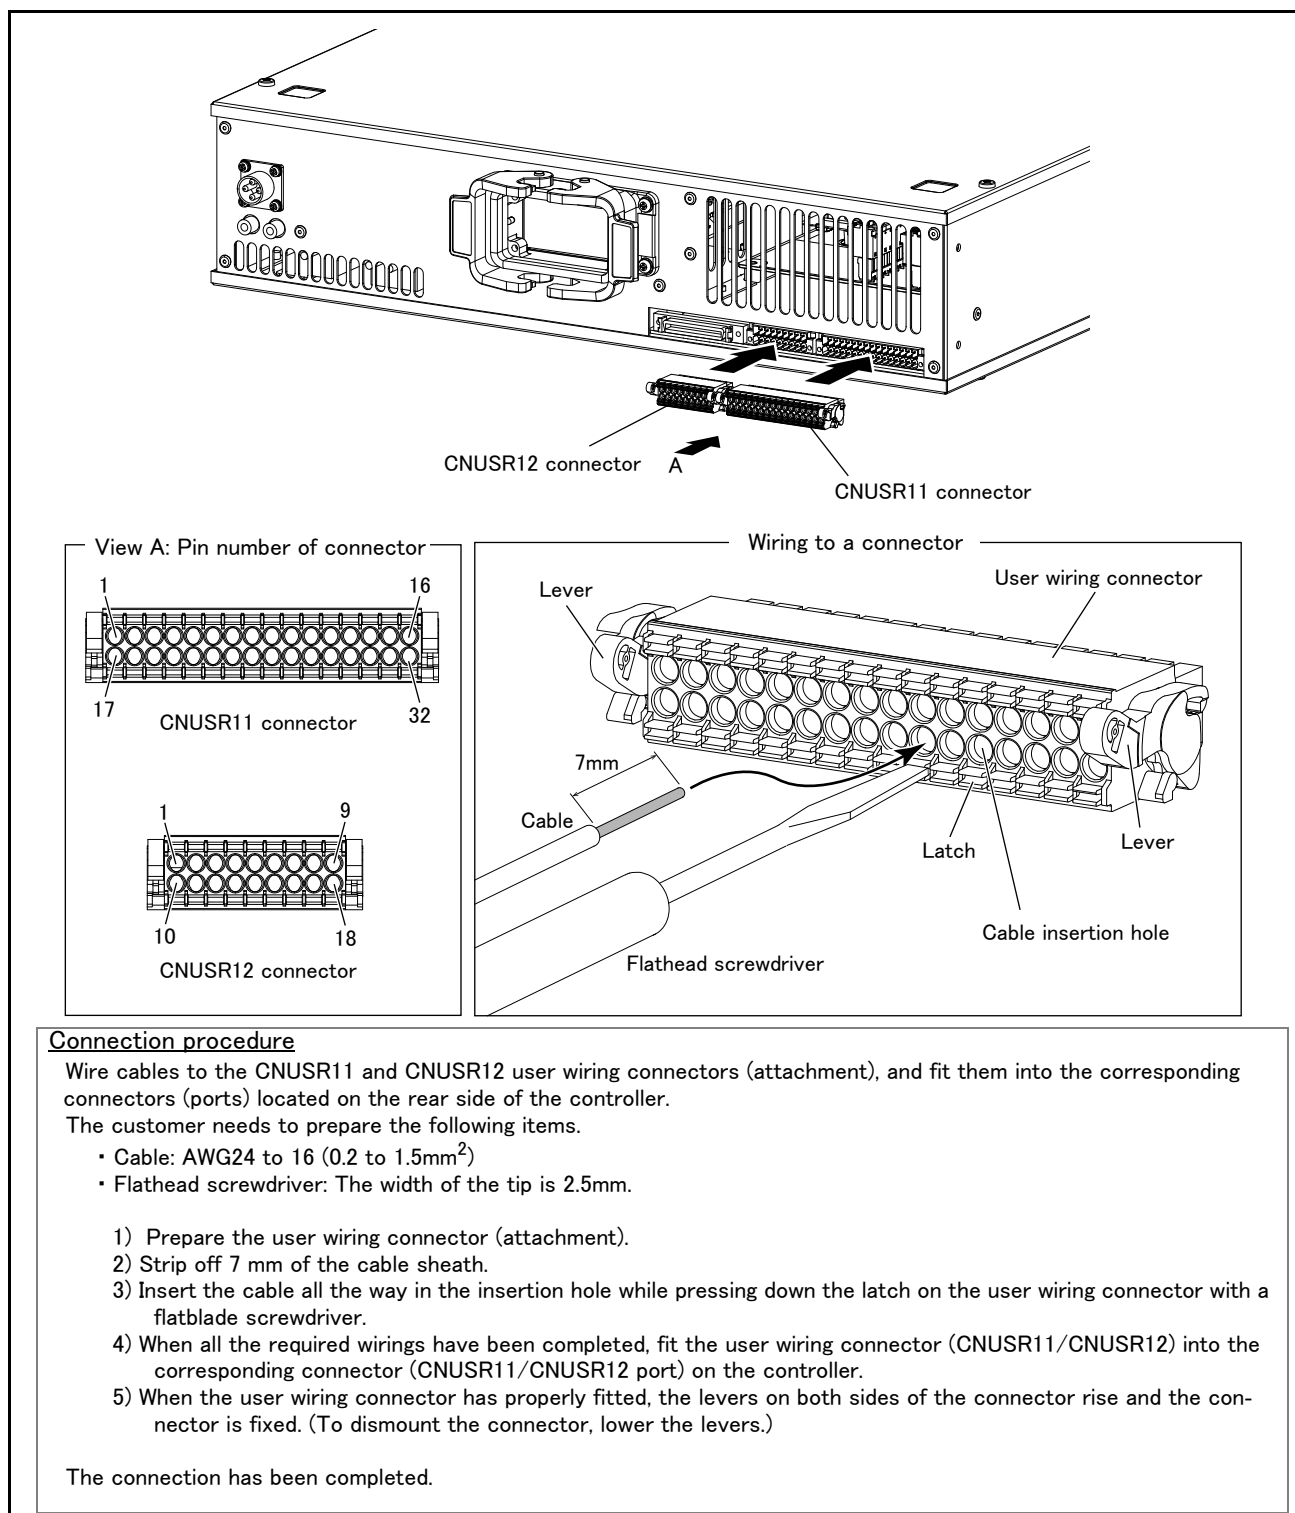

Fig.3-14 : Wiring method to the user wiring connector
* Refer to Page 184 "Fig. 3-14: Wiring method to the user wiring connector" for more details about how to wire a connector.